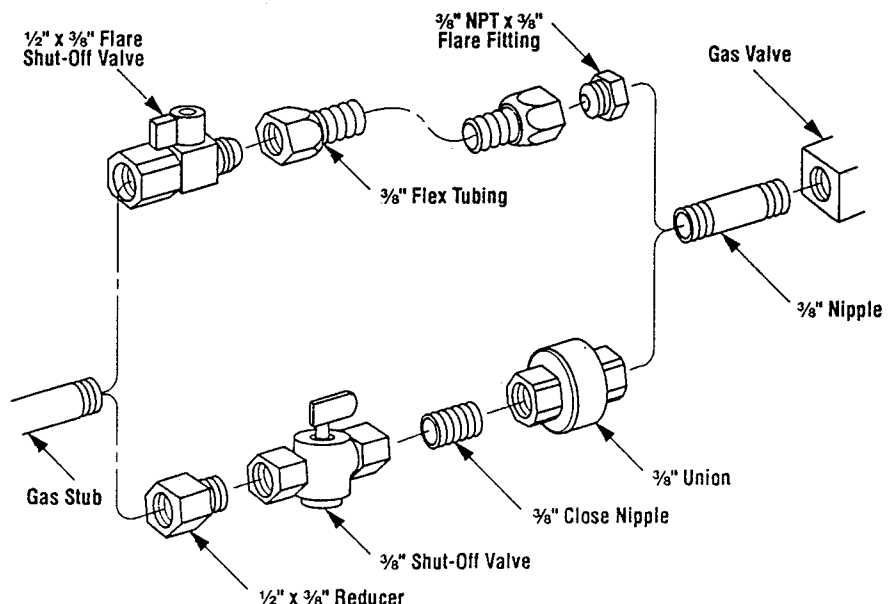

Figure 29
**Step 6. Connecting Gas Line – Make gas line connections.** All codes require a shut-off valve mounted in the supply line. Figure 29 illustrates two methods for connecting the gas supply.